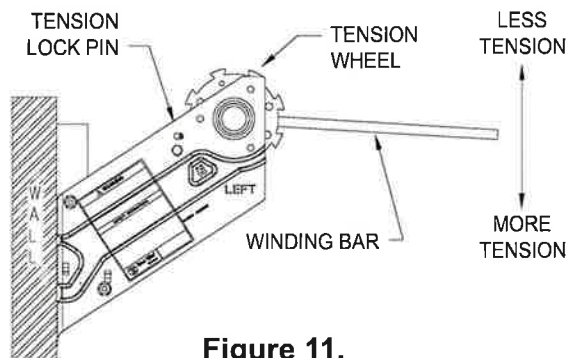

Figure 11.
10.2 To add tension, insert winding bar and move down until ratchet clicks after 1/8 turn. Move up slightly until ratchet locks in place. (See Figure 11.)